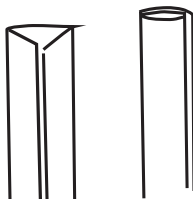

Figure 10
2. Fold binding in half lengthwise, then fold each half’s matching edge to the center fold (Figure 10).